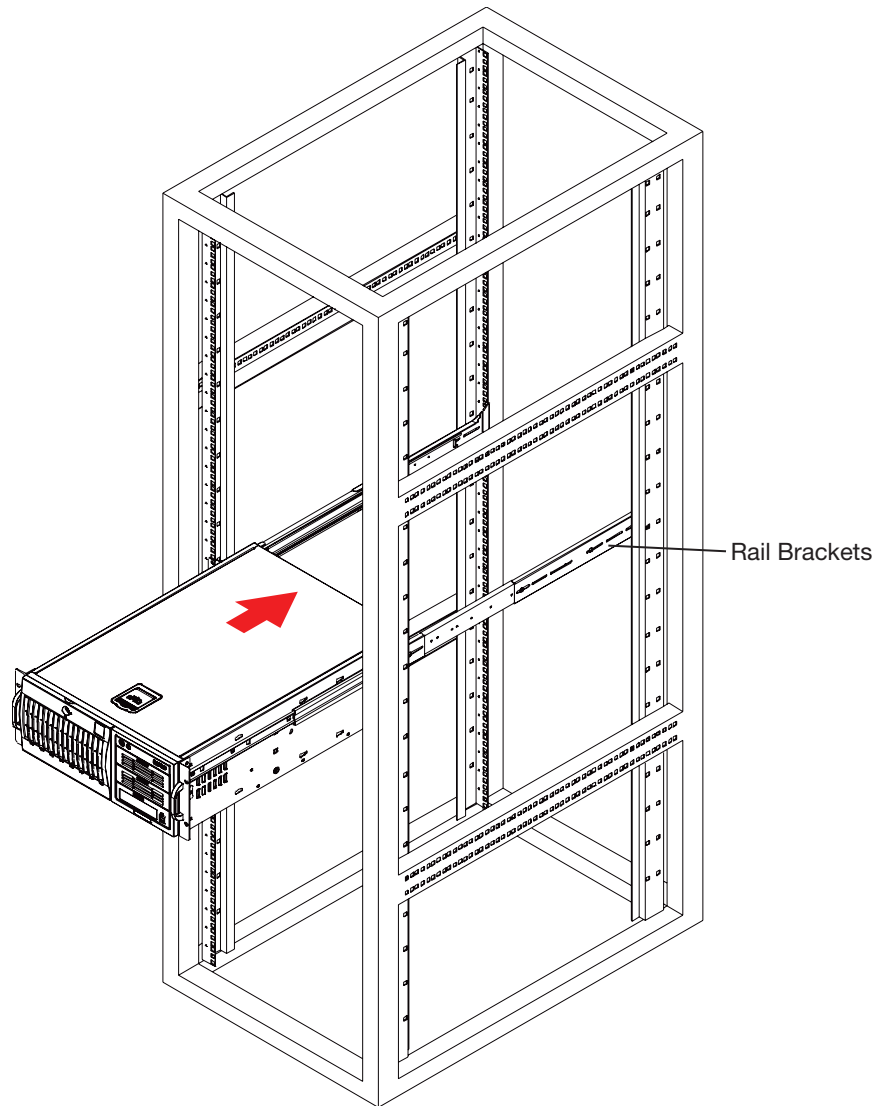

Figure 46. Installing the VNM Recorder into a Rack
9. Line up the inner rails on the recorder with the outer rails on the rack. Gently slide the recorder into the outer rails of the rack (see figure 46). Depress the locking tabs, if necessary, when sliding the recorder into the outer rails.